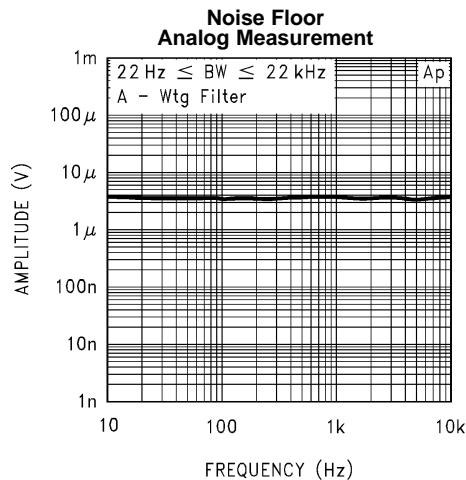
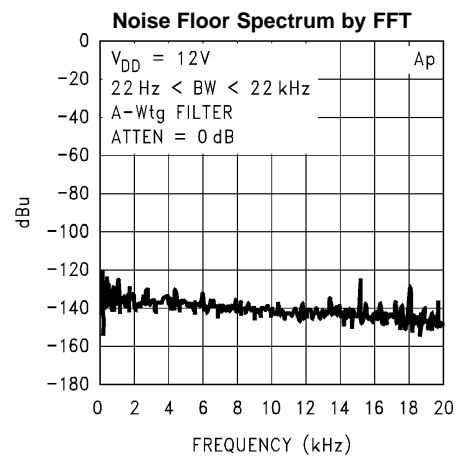

Figure 5.
Figure 8.
- (1) Absolute Maximum Ratings indicate limits beyond which damage to the device may occur. Operating Ratings indicate conditions for which the device is functional, but do not specify specific performance limits. Electrical Characteristics state DC and AC electrical specifications under particular test conditions which ensure specific performance limits. This assumes that the device is within the Operating Ratings. Specifications are not ensured for parameters where no limit is given, however, the typical value is a good indication of device performance.
- (2) All voltages are measured with respect to the GND pin (pin 3), unless otherwise specified.
- (3) Typicals are measured at $25^\circ C$ and represent the parametric norm.
- (4) Limits are specifications that all parts are tested in production to meet the stated values.
- (5) Due to production test limitations, there is no limit for the Noise test. Please refer to Figure 5 and Figure 8 in Typical Performance Characteristics.